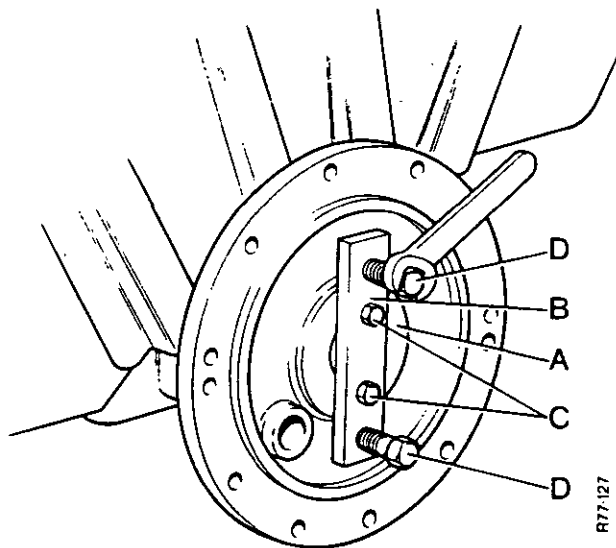

FIGURE 24 REMOVING THE OIL SEAL HOUSING
12. Remove the oil seal housing from the right hand side of the axle casing using the extractor K900208. See figure 24.